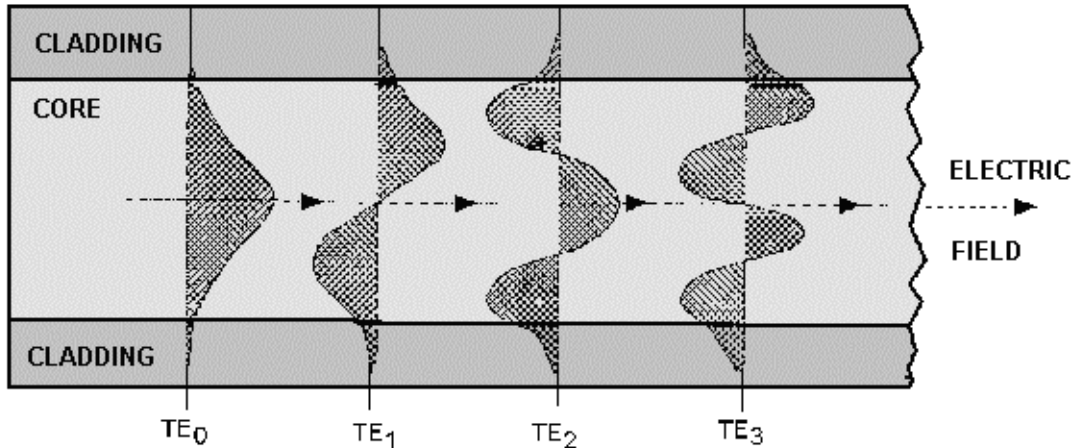

Figure 2-17.—Transverse electric (TE) mode field patterns.
MODES.—A set of guided electromagnetic waves is called the modes of an optical fiber. Maxwell's equations describe electromagnetic waves or modes as having two components. The two components are the electric field, $E(x, y, z)$, and the magnetic field, $H(x, y, z)$. The electric field, E , and the magnetic field, H , are at right angles to each other. Modes traveling in an optical fiber are said to be transverse. The transverse modes, shown in figure 2-17, propagate along the axis of the fiber. The mode field patterns shown in figure 2-17 are said to be transverse electric (TE). In TE modes, the electric field is perpendicular to the direction of propagation. The magnetic field is in the direction of propagation. Another type of transverse mode is the transverse magnetic (TM) mode. TM modes are opposite to TE modes. In TM modes, the magnetic field is perpendicular to the direction of propagation. The electric field is in the direction of propagation. Figure 2-17 shows only TE modes.
The TE mode field patterns shown in figure 2-17 indicate the order of each mode. The order of each mode is indicated by the number of field maxima within the core of the fiber. For example, TE_0 has one field maxima. The electric field is a maximum at the center of the waveguide and decays toward the core-cladding boundary. TE_0 is considered the fundamental mode or the lowest order standing wave. As the number of field maxima increases, the order of the mode is higher. Generally, modes with more than a few (5-10) field maxima are referred to as high-order modes.
Before we progress, let us refer back to figure 2-17. Notice that the modes are not confined to the core of the fiber. The modes extend partially into the cladding material. Low-order modes penetrate the cladding only slightly. In low-order modes, the electric and magnetic fields are concentrated near the center of the fiber. However, high-order modes penetrate further into the cladding material. In high-order modes, the electrical and magnetic fields are distributed more toward the outer edges of the fiber.